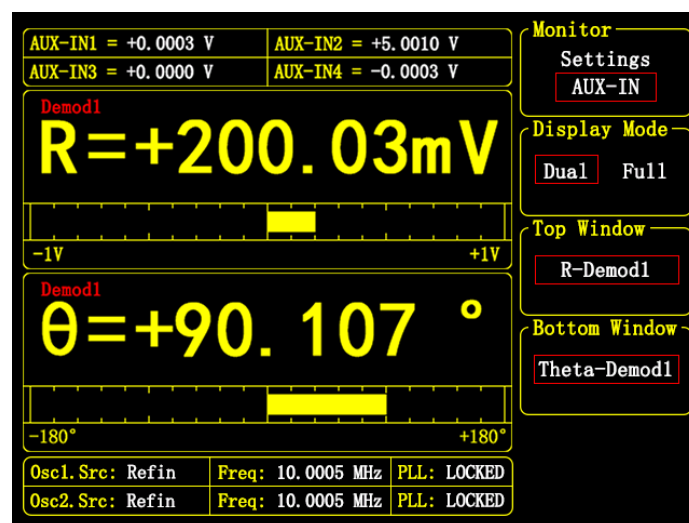

Figure 55. <AUX-IN> interface
- <AUX-IN> : Displays the real-time input voltage amplitudes of the four rear-panel AUX-IN BNC connectors in the status bar at the top of the LCD screen. The interface is shown in Figure 55: